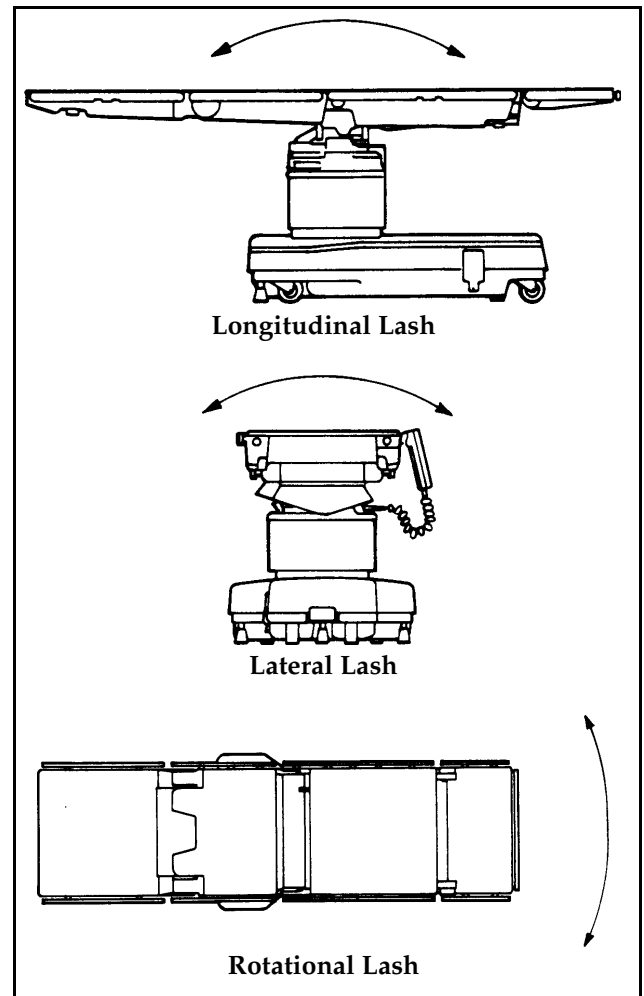

Figure 6-2. Tabletop Lash
4. Engage floor locks, level tabletop and raise table to maximum elevation. Measure tabletop lash* as follows (see Figure 6-2):